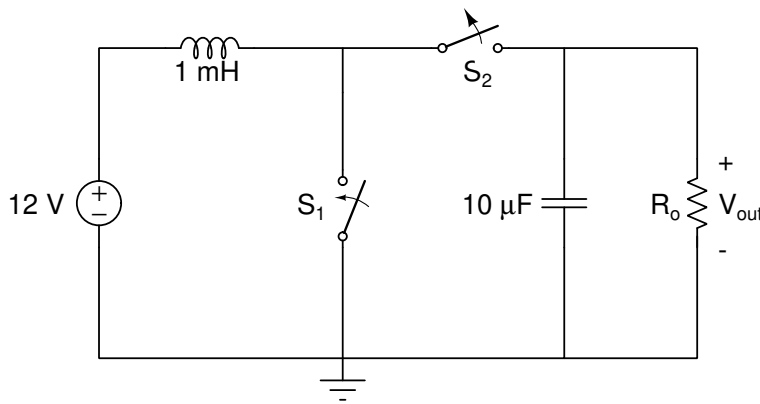

Figure 1: A boost converter circuit containing two synchronized switches.
Introduction: In this lab, you will design and simulate a boost converter based on the switched capacitor circuit shown in **Figure 1**. You will analyze how the output voltage changes over the temperature range between -50° and $+60^{\circ}$ C.
Figure 2: Boost converter circuit implemented with an NMOS transistor driven with a function generator (FG) to represent the switch S_1 and a junction diode to represent the switch S_2 in Figure 1.